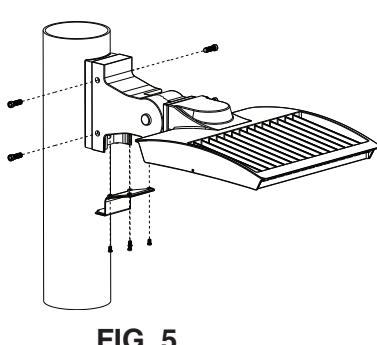

FIG. 5
4. Inspect installation to ensure the fixture is secure (see **FIG 5**).
3. Tighten the four (4) M8 bolts on the arm and secure it to the adapter. Connect the power leads properly according to the wiring diagrams above. Make wiring connections inside the arm, and tighten the bottom cover with the four (4) M4 screws (see **FIG. 5**). The wiring connections can also be made inside of the pole.